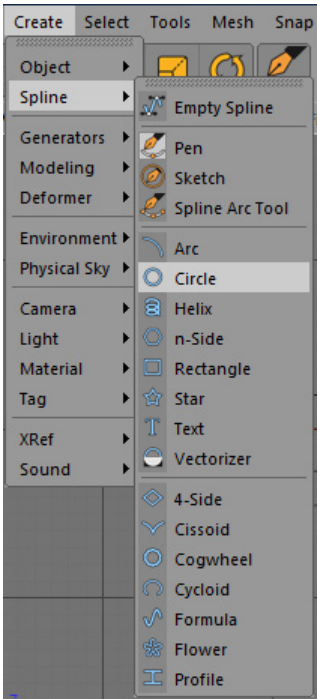

Figure 2-21 Choosing *Circle* from the main menu
6. Press F2; the Top viewport is maximized. Next, choose **Create > Spline** from the main menu; a cascading menu is displayed. Choose **Circle** from it, as shown in Figure 2-21; a circle is created in the Top viewport and *Circle* is added to the Object Manager.